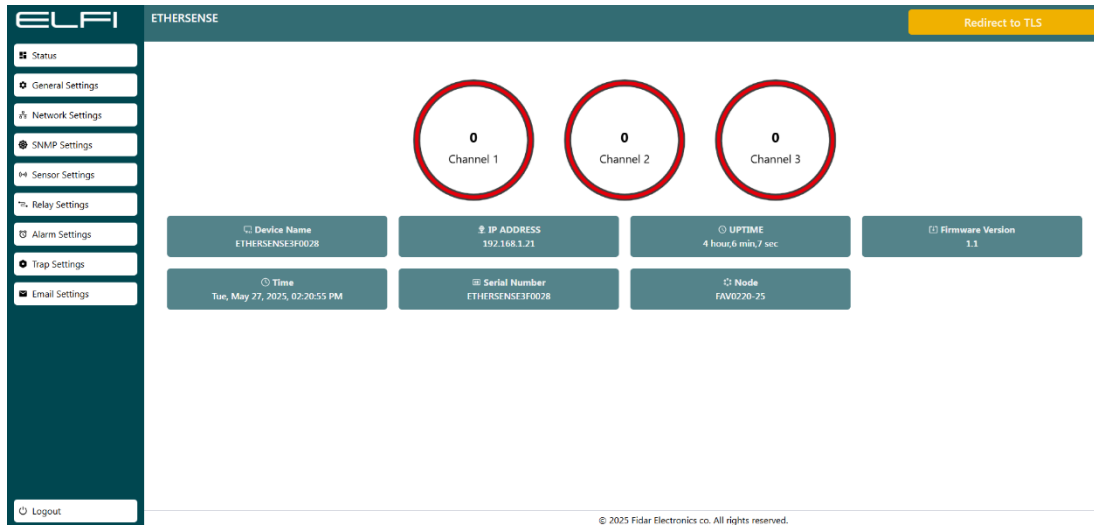

Figure 6: detector “Status” Menu
The Status page is specifically designed to provide real-time monitoring of the Dry Contact detector's performance. This digital detector operates in only two states: Active (1) and Inactive (0). This page can be used to observe critical events within the system (see Figure 6).